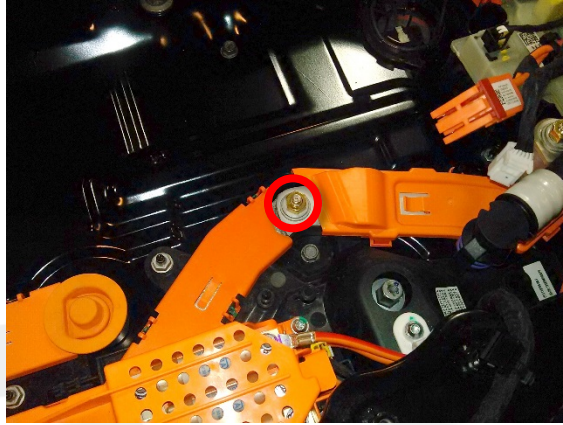

Figure 2
3. Remove and discard the nut that attaches the positive busbars at the joint (Figure 2).
4. Install a new nut to attach the positive busbars at the joint, and then mark the nut with a paint pen after it is torqued (torque 5 Nm +35°) (Figure 2).